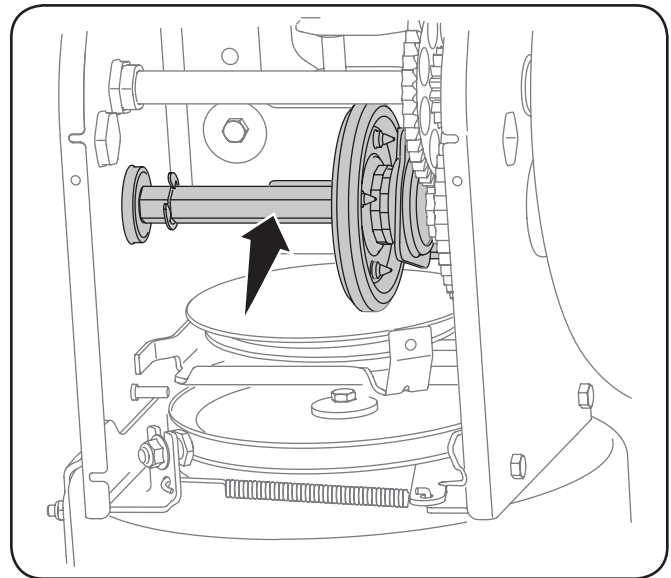

Figure 6-2
4. Apply a light coating of engine oil (or 3-in-1 oil) to the hex shaft. See Fig. 6-2.